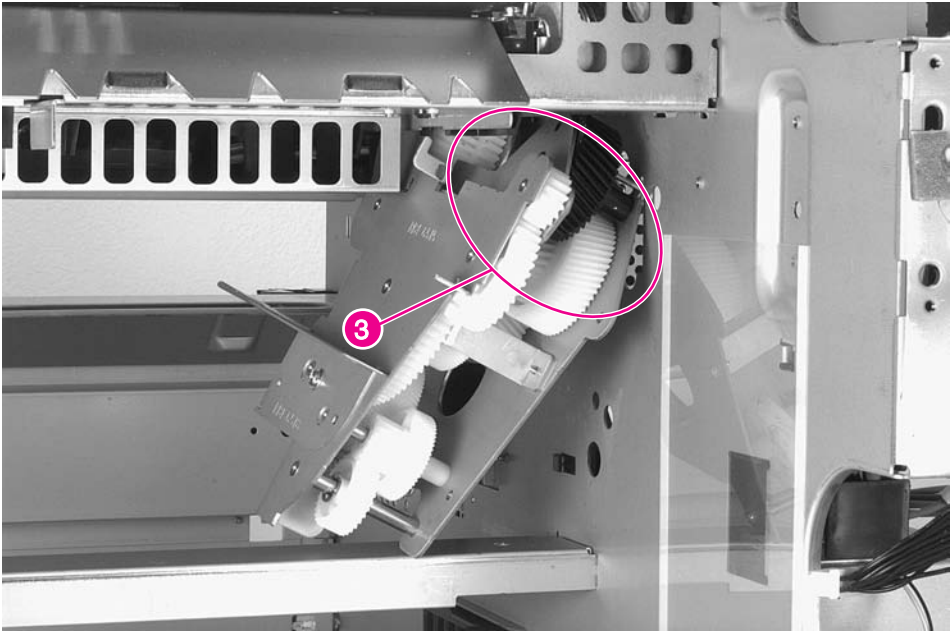

Figure 6-40 Main Gear Assembly (3 of 3)
- 2 Tilt the top of the assembly inward and insert the upper back part of the assembly in place (figure 6-40, callout 3).